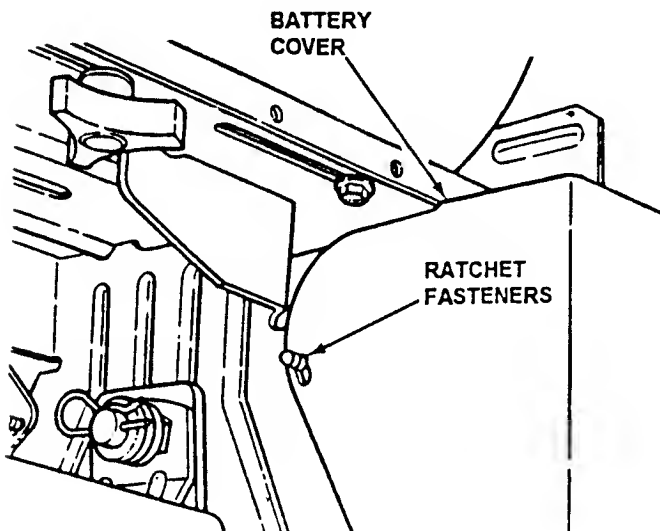

FIGURE 4.26
1. Carefully pull each side of battery cover away from ratchet fasteners and remove cover. See Figure 4.26.
4. Reinstall battery cover. Refer to Figure 4.26.
12. Reinstall battery cover. Refer to Figure 4.26.